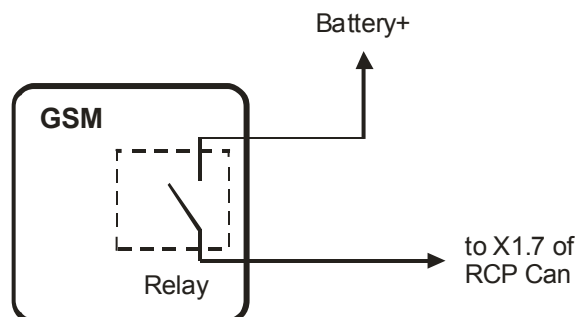

Figure 8
- Some GSM modules can control external device by the means of inner relay. These may be connected to RCP by the scheme at the fig.8